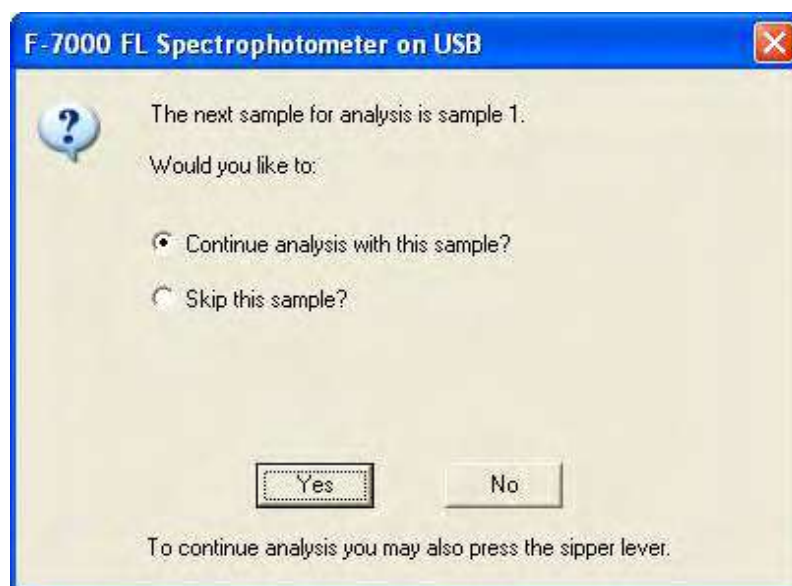

Fig. 3-18
- (1) Click the  button and make sure a sample has already been defined.
- (2) Set a sample and click the  button to start measurement.
- (3) Upon start of measurement, the window shown in Fig. 3-18 appears. Click **Yes**.